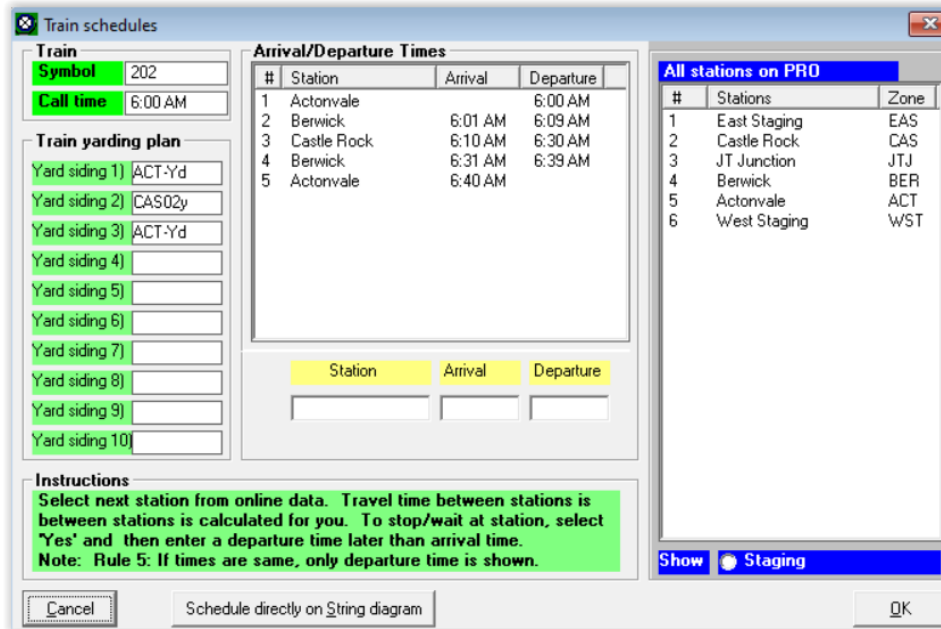

Figure 12-26c
- The final train 202 schedule is shown in Figure 12-26c. Make sure to click the "OK" button to save the schedule.